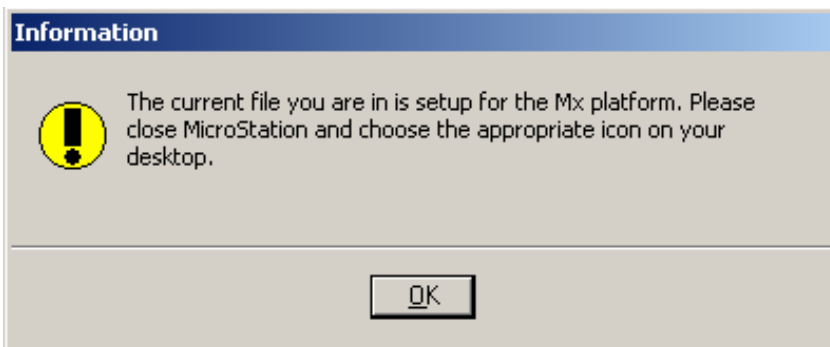

Figure 22-53: Information dialog stating that the file was created for the MX platform
- 🎵 If the *Information* message appears (Figure 22-53), alerting the user that the chosen *.dgn is not in the correct units of resolution, then the file must be corrected before being used in the InRoads software.